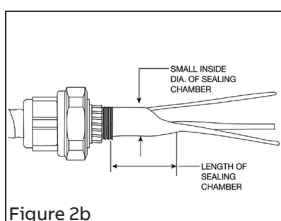

Figure 2b
- Apply small portion of sealing compound in the middle of insulated and between individual strands of uninsulated grounding conductor. Bring conductors back together and apply sealing compound all around conductors. Build up compound approximately equal to the small inside diameter of the sealing chamber. Length of compound plug should be approximately equal to the length of the sealing chamber (Figure 2b).